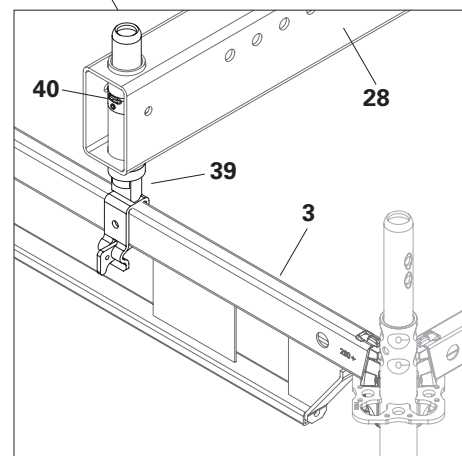

Fig. A8.02b
4. Secure the ledger (**28**) and the UH Spigot-2 (**39**) with the locking pin (**40**). (Fig. A8.02b)